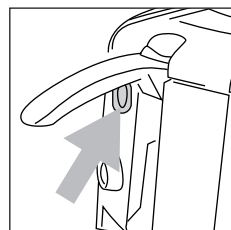

fig. 2
- Open the lid by pressing button (fig.2).